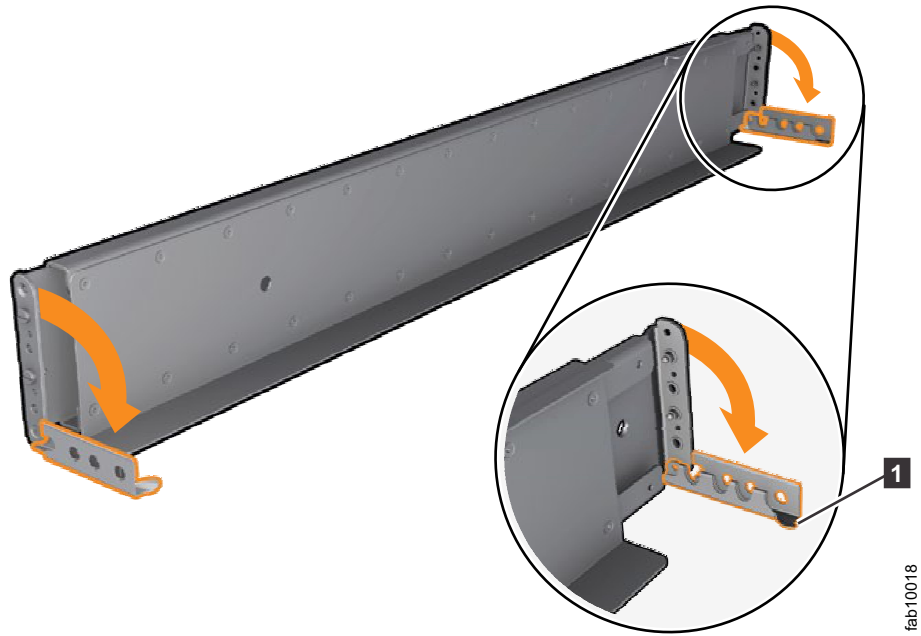

Figure 16. Opening the hinge brackets
6. At each end of the rail, grasp the tab **1** and pull *firmly* to open the hinge bracket (see Figure 16 on page 20).